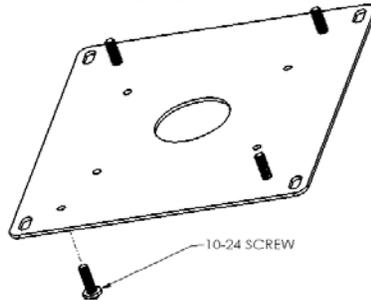

Figure 2.
1. Remove one of the 10-24 screws from the projector's SLB interface bracket (see Figure 2).